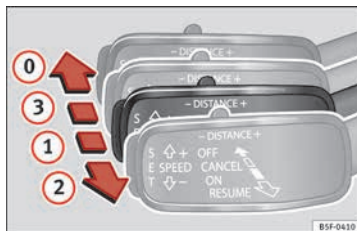

Fig. 197 On the left of the steering column: third lever for operating the Adaptive Cruise Control.
The ACC can be activated again by moving the lever to position ② » Fig. 197.